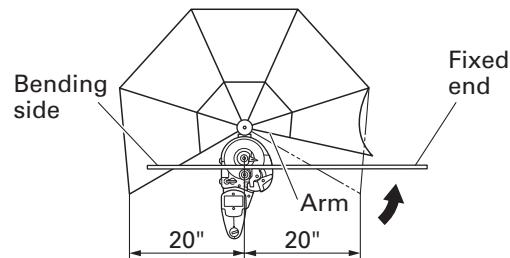

Fig. 20
- Install the deflection guard for operation with the bending length of a rebar 20" (inside dimension of the deflection guard) or less to protect the persons around the rebar cutter/bender in case rebar splinters into pieces and deflects during bending. (Fig. 20)
- (2) Be sure to install the deflection guard when bending a rebar whose bending length is 20" (inside dimension of deflection guard) or less and the fixed length is more than 20". In this case, move the arm at the fixed end. (Fig. 20)